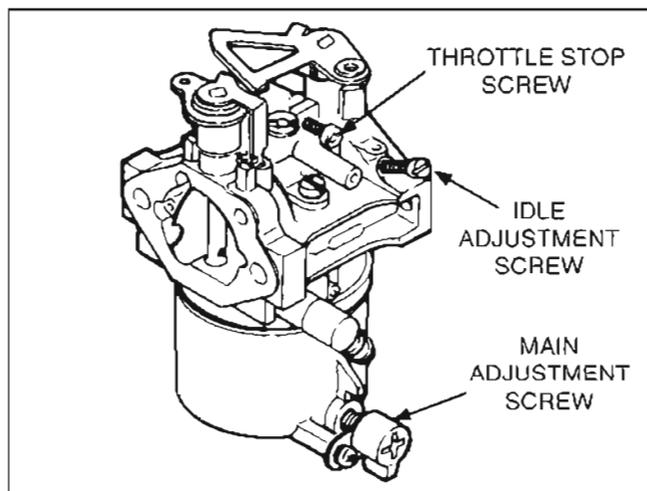

FIGURE 8-18. MIXTURE SCREW ADJUSTMENT (PRIOR TO SPEC E, MODEL KV ONLY)
Start the engine and allow it to run for about 10 minutes. The location of the adjustment screws is shown in Figure 8-18. Use the following procedure:
5. Turn the governor speed adjustment screw counterclockwise until the speed is ≤ 50 Hz, so that the throttle lever on the carburetor is resting against the throttle stop screw (Figure 8-18). Adjust the stop screw to obtain a frequency of 44 to 46 Hz on 60 Hz gensets (36 to 38 Hz on 50 Hz gensets).